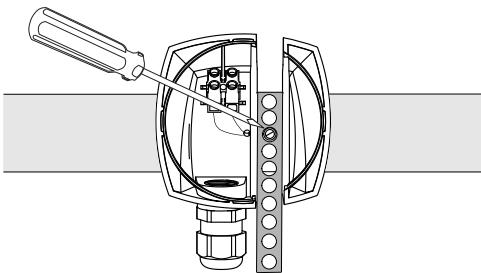

Figure 2 Secure the metal strip
- Use the dedicated screw to secure the metal strip as shown in *Figure 2*.